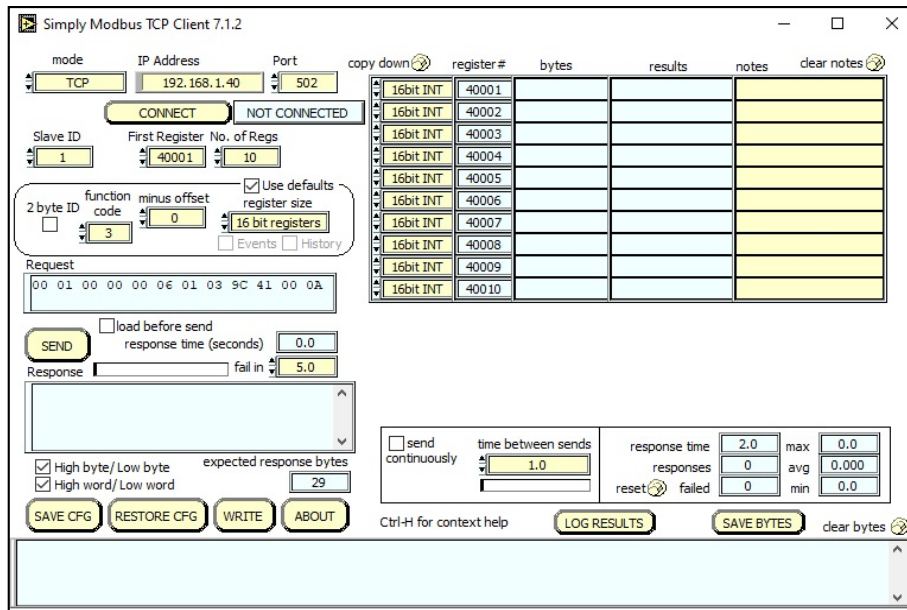

Figure 78: Modbus TCP Client Configuration Interface
- 3. Set Up the Modbus Client Application:** Enter the IP address and Slave ID into the Modbus client application, such as the Modbus TCP client shown in Fig 78. This setup will enable the application to establish a connection and communicate with the SMPLC server.